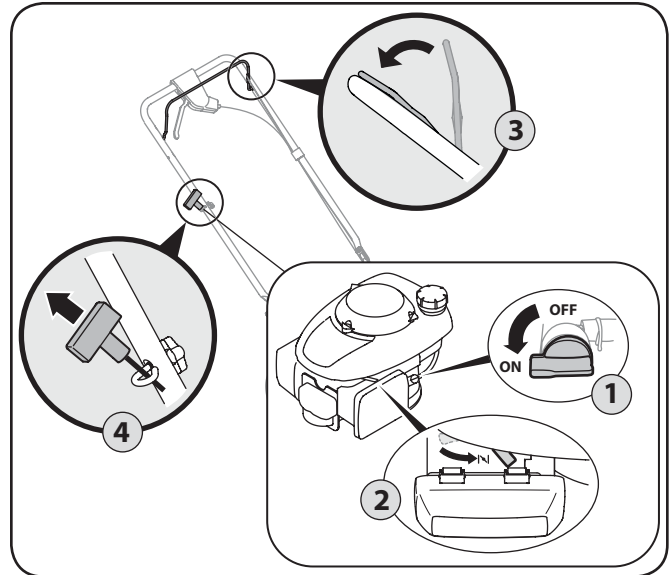

Figure 5-1
1. Place the fuel valve lever found on the left side of the engine into the ON (OPEN) position. See Fig. 5-1.
4. Holding these two handles together firmly, grasp recoil starter handle and pull rope out with a rapid, continuous, full arm stroke. See Fig. 5-1. Keeping a firm grip on the starter handle let the rope rewind slowly. Repeat until engine cranks. Let the rope rewind each time slowly.
2. **Recoil Start:** Holding these two handles together firmly, grasp recoil starter handle and pull rope out with a rapid, continuous, full arm stroke. See Figure 5-1. Keeping a firm grip on the starter handle, let the rope rewind slowly. Repeat until engine cranks. Let the rope rewind each time slowly.